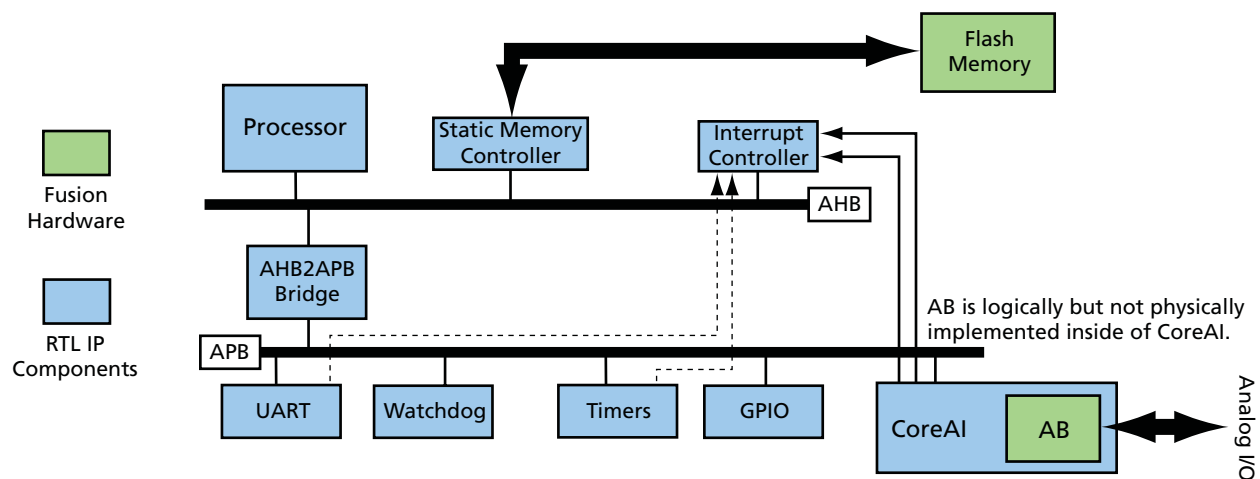

Figure 9-2 • Processor System Using CoreAI
For the above ARM-based processors and CoreABC, Actel offers CoreAI (Analog Interface) to interface with the Analog System. CoreAI allows for simple control of the analog peripherals within Fusion. Control can be implemented with an internal or external microprocessor or microcontroller, or with user-created custom logic within the FPGA fabric. The AMBA APB slave interface is used as the primary control mechanism within CoreAI, as shown in Figure 9-2. CoreAI instantiates the Analog Block (AB) macro, which includes the Analog Configuration MUX (ACM) interface, Analog Quads, and Real-Time Counter (RTC). Several aspects of CoreAI can be configured using top-level parameters (Verilog) or generics (VHDL). For a detailed description of the parameters/generics, refer to the CoreAI Handbook.